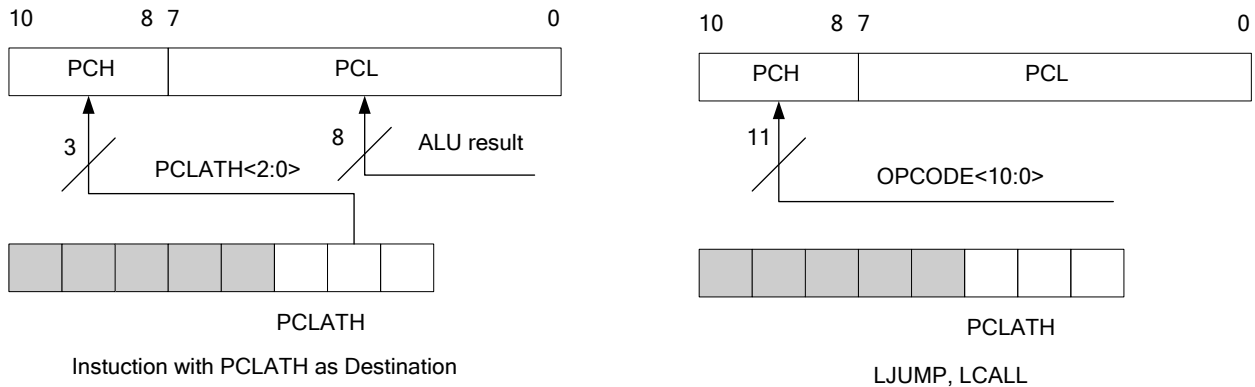

Figure 14-3 Loading of PC in different situations
The Program Counter (PC) is 11 bits wide. The low byte comes from the PCL register, which is a readable and writable register. The high byte PC[10:8] is not directly readable or writable and comes from PCLATH. On any Reset, PC clears. **Figure 14-3** shows the two situations for the loading of the PC.